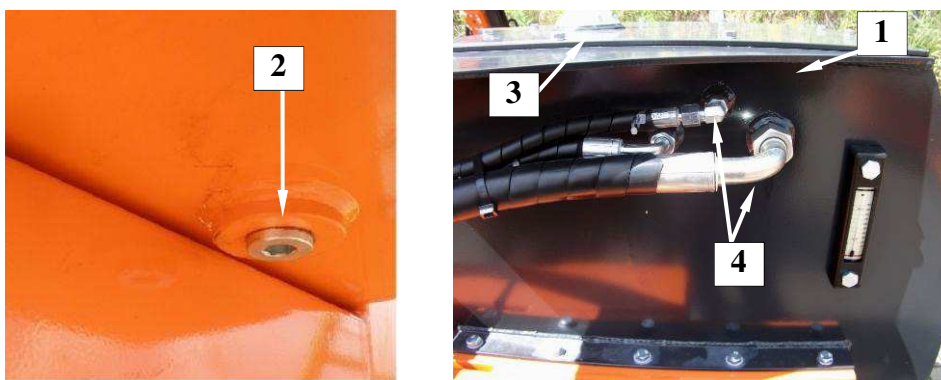

Fig. 54. Oil tank
Tightness of tank's (1) welded joints should be examined as well as hoses connections. These activities should be performed at least once a month (Fig. 54).